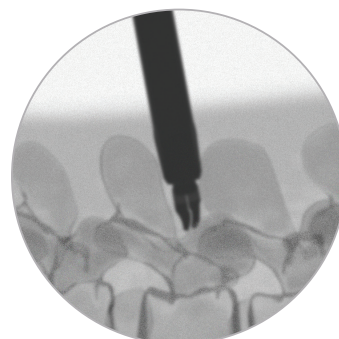

Fig. 12A. Implant Completely Closed and Ready for Removal
4. Rotate the Driver counterclockwise until the Implant is closed (Fig. 12A). A positive stop will be felt when the Implant is completely closed. Withdraw the Inserter with attached Implant from the Cannula, and withdraw the Cannula.